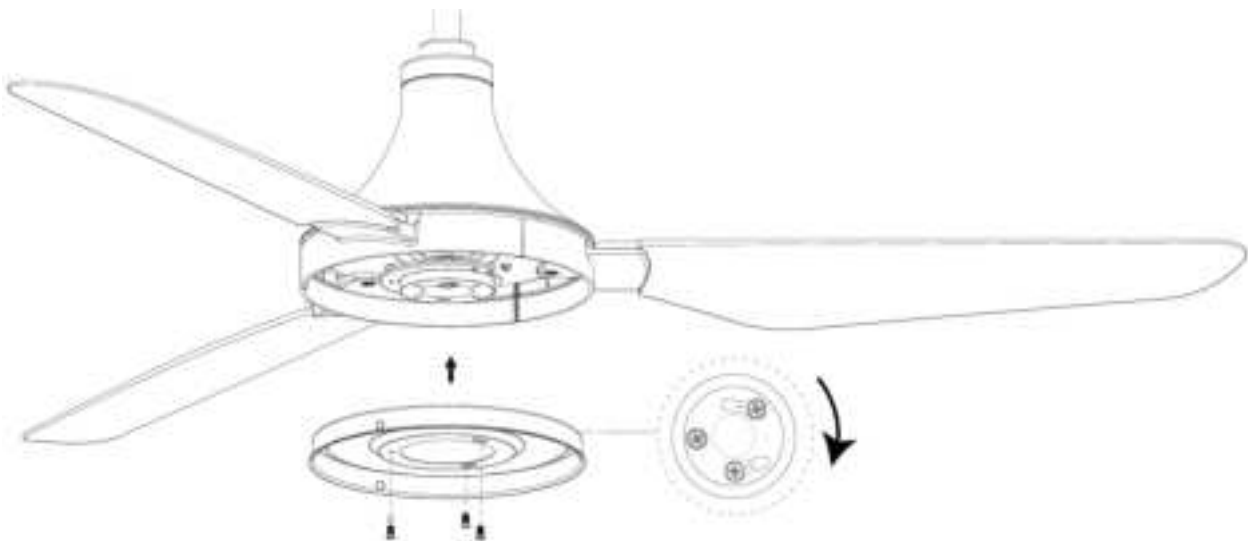

Fig. 7
INSTALLATION OF LIGHT KIT (Fig. 7)
1. Loosen the screw from the fan bracket. (Fig. 7)
2. Align the two slot screws with the keyhole slots of the light kit plate. (Fig. 7)